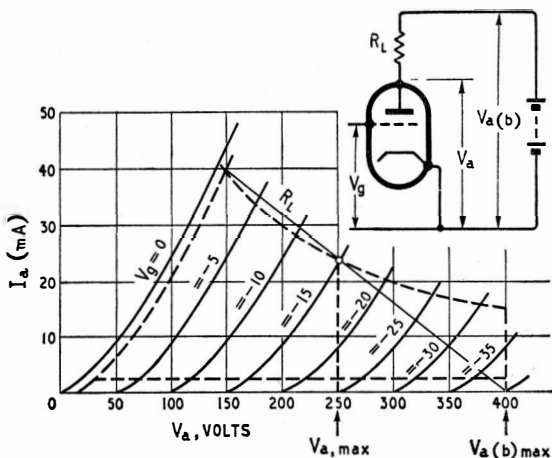

Fig. 7. The Fig. 6 curve sheet with load line added, through the working point (encircled).
us say) is 250V. And if the load were to be a resistance, fed from the maximum supply voltage (400) it would be represented by the sloping line through O and 400V 0mA, as in Fig. 7. From its slope we find it is 6,250 Ω . We note that the working point is on the " $V_g=-15$ " curve, so that is the grid bias. And if we allow the signal input to swing the grid right up to 0 and down to -30 , the load line shows that the corresponding V_a swing is between 140 and 350 (= 210 peak-to-peak) and I_a is 41.6 and 8 (= 33.6 peak-to-peak). The voltage amplification is therefore 210/30 = 7. The power output (into the resistance) is equal to the r.m.s. signal voltage multiplied by the r.m.s. signal current, and since an r.m.s. value is $1/\sqrt{2}$ times a peak value, which in turn is half the peak-to-peak value, this power is equal to peak-to-peak $V_a \times I_a$, divided twice by $2\sqrt{2}$, that is to say by 8. So it is $(210 \times 0.0336)/8 = 0.88W$.
For a power amplifier, on the other hand, one wants to get the power out into some external load, such as a loudspeaker, not waste it all in a resistance coupling. The coupling is done by a transformer, which has very little—perhaps negligible—d.c. resistance, but considerable signal-frequency resistance. The usual procedure would be to place the working point as already done in Fig. 7, and then draw from it to the voltage scale a line representing the d.c. resistance of the transformer or choke coupling. Being such a low resistance, the line would be almost vertical, and the resulting $V_{a(b)}$ indicated by where it cut the V_a scale would be only slightly more than the working V_a .
The *a.c.* load line need not touch the V_a scale at any particular point such as $V_{a(b) \text{ max}}$; it should be swung round O as a pivot until it indicates the maximum output. The output power is represented by one-eighth of the area of the rectangle of which the load line is a diagonal. If the load line slopes too little, this rectangle is too flat to have much area; if the line slopes too steeply the rectangle is too narrow. The length of the load line diagonal must be equal in both directions from its pivot at O, and must not go beyond the grid-current or bottom-bend boundaries. The 6,250 Ω line in Fig. 7 is unlikely to give the largest area because an input signal limited at its positive peak by grid current leaves quite a lot of useful space between its negative peak and the bend boundary. A more promising line would be steeper, indicating a lower load resistance; drawn, in fact, from the point